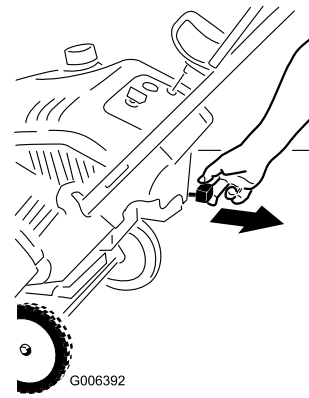

Figure 13
2. Pull out the choke lever (Figure 13).